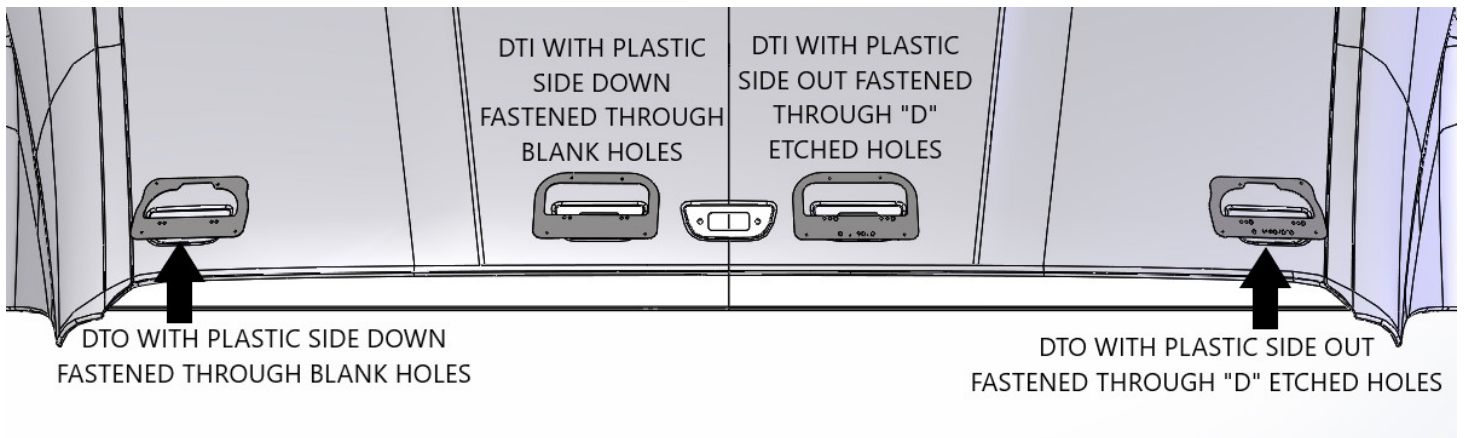

Figure 1: Drill Template Locations (Perspective: Looking at Roof When Standing in Front of Truck)
- a. Refer to Fig. 1 for template orientations. Both templates will be plastic side up on the driver side and plastic side down (hidden) on the passenger side.
- a. Referirse a la Fig. 1 para la orientación de las plantillas.